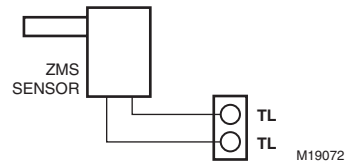

Fig. 12. Discharge Air Temperature Sensor (C7735A or ZMS) wiring.
3. Connect the Discharge Air Temperature Sensor (not supplied) to the TL terminals. The wires are not polarized. See Fig. 12.
Wire the C7735A or the ZMS to the panel as shown in Fig. 12.